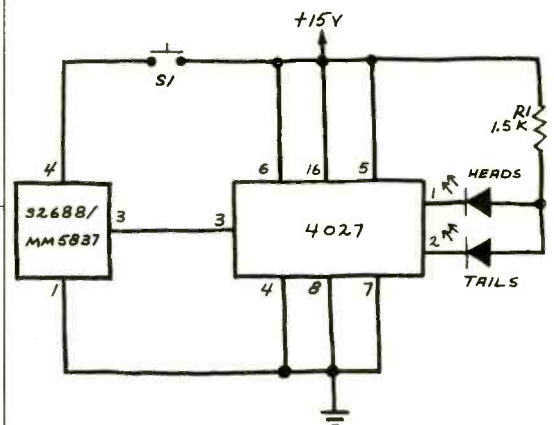

Fig. 7. Noise generator coin tosser.
**Coin Tosser.** Circuits that produce a completely random binary output are much in demand. Figure 7 shows a simple random-output circuit made from a noise generator and a 4027 flip-flop operated in its toggle mode.